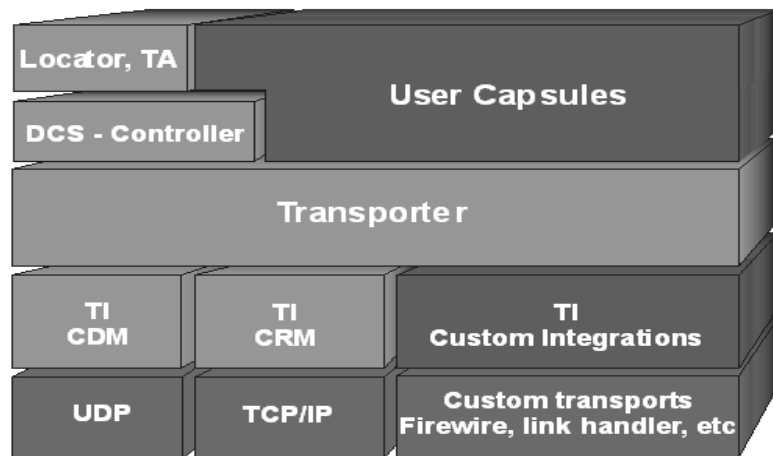

Figure 119 Connexis High-Level Design
The Connexis Transport Integration Framework (TIF) forms the basis of integration. A Transport Integration (TI) is the actual implementation of an instance of the TIF. The transports which come with Connexis (CDM based upon UDP and CRM based upon TCP/IP) have been integrated using the TIF. Figure 119, “Connexis High-Level Design,” on page 303, shows how the DCS fits into a DCS-enabled application. The Locator and Agent, included as part of the DCS, are special applications that access internal information about connections and uses of the DCS like a user application. User applications make use of the DCS when registering and deregistering SAPs and SPPs and when sending messages between SAPs and SPPs.
The Table 70, Connexis High-Level Design Chart, identifies what components of Figure 119 are DCS, Customer or Third-party components.